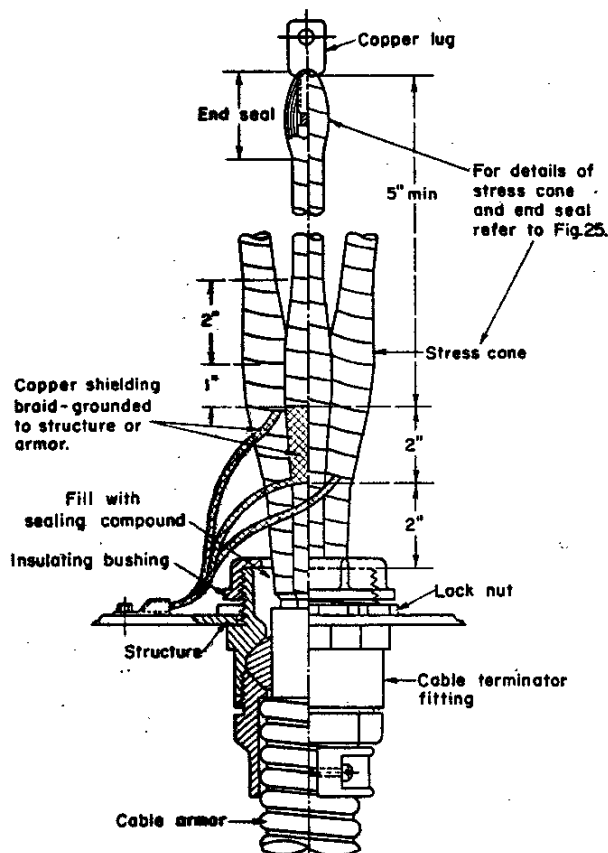

Fig. 24. Termination of interlocked-armor, shielded, 5000-volt cable
3. Proceed to build stress cones as prescribed by the cable manufacturer. Refer to Fig. 24 and 25 for details.